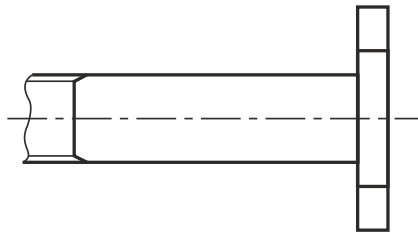

Figure 1
- (iii) Apply the British Standards convention for this flat on the bolt shown below (Figure 1).